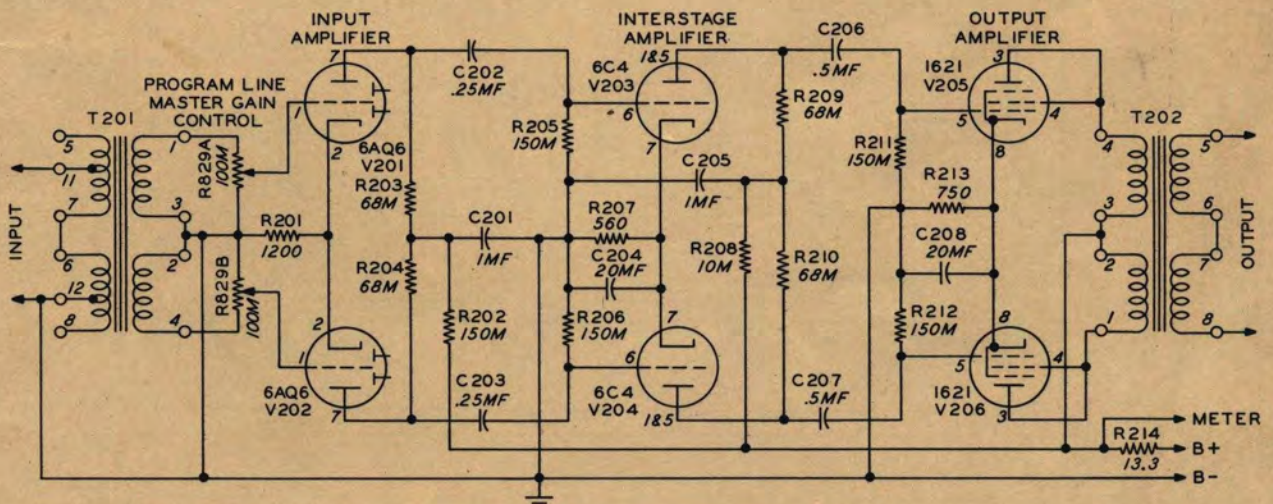

Figure 2-5 Program Line Amplifier Circuits
(7) PROGRAM LINE AMPLIFIER CIRCUITS. - Refer to figure 2-5. The type 6N-1 program amplifier is a three stage push pull amplifier. The input impedance is 600 ohms. The input operating level is approximately -20 dbm. The output impedance is 600 ohms. The maximum overall gain is approximately 70 db. The input voltage amplifier stage employs two push pull type 6AQ6 tubes V201 and V202 operating as triodes. The interstage amplifier utilizes two push pull type 6C4 triodes V203 and V204. The output amplifier stage uses two push pull type 1621 tubes V205 and V206, connected as triodes. The mixer circuits are coupled to the grids of the input amplifier tubes V201 and V202 by transformer T201. An attenuator R829 located in the grid circuit serves as the master gain control. Capacitors C202 and C203 couple the plate circuit to the grid circuit of the interstage amplifier tubes V203 and V204. Capacitor C204 and resistor R207 are used in the cathode circuit. The plate circuit is coupled to the grids of the output amplifier stage V205 and V206 by capacitors C206 and C207. Capacitor C208 and resistor R213 make up the cathode circuit. Transformer, T202, is the output coupling transformer. Resistors R202, R203, R204, R208, R209 and R210 are plate resistors. Resistor R214 is used in the plate metering circuit. Resistors R205, R206, R211 and R212 are used in the grid circuits.